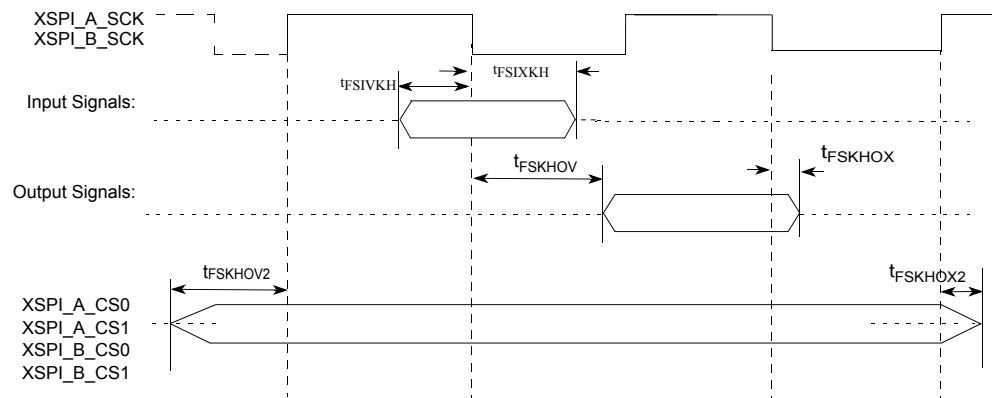

Figure 39. FlexSPI SDR mode AC timing diagram
1. Refer the FLSHxyCR1 QorIQ LX2160ARM for more details, where x: A or B, y: 1 or 2 2. See Figure 37. 3. See Figure 38. 4. See Figure 39. 5. T = FlexSPI clock period
1. Refer the FLSHxyCR1 QorIQ LX2160ARM for more details, where x: A or B, y: 1 or 2 2. See Figure 37 . 3. See Figure 38 . 4. See Figure 39 . 5. T = FlexSPI clock period